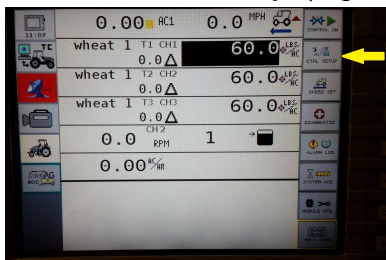

Figure 21
Step 1. Select **Control Setup**. (Figure 21)